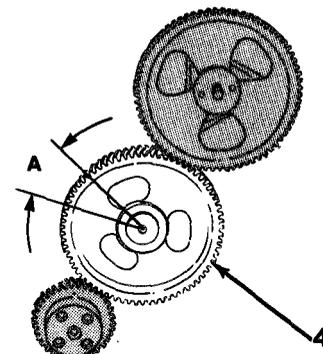

Figure 6-2
2. Using dial indicator, measure camshaft gear (4, Figure 6-2) backlash. Camshaft gear (4) backlash limits (A) are 0.003 to 0.013 in. (0.08 to 0.33 mm).